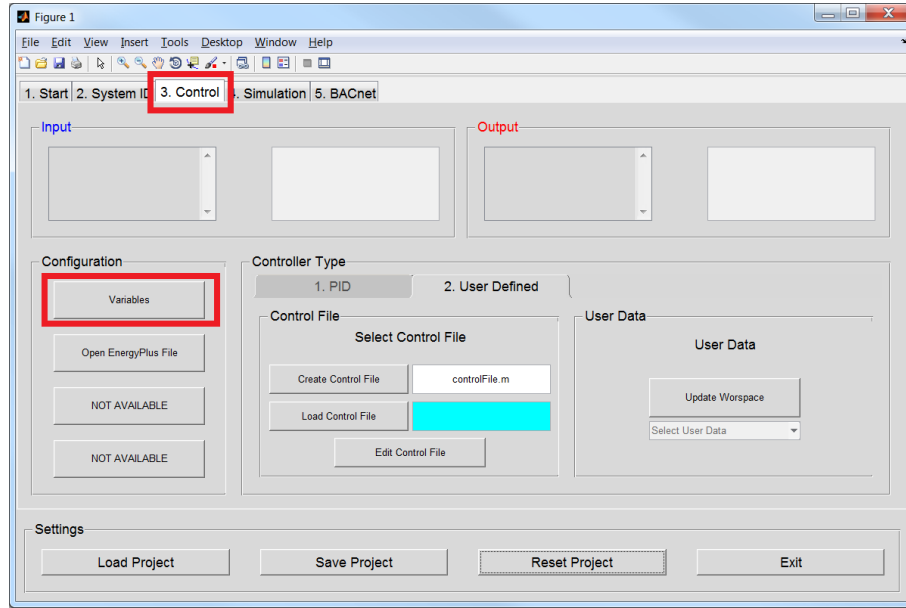

Figure 6: MLE+ control design tab.
1. Select the Control Tab (Figure 6)